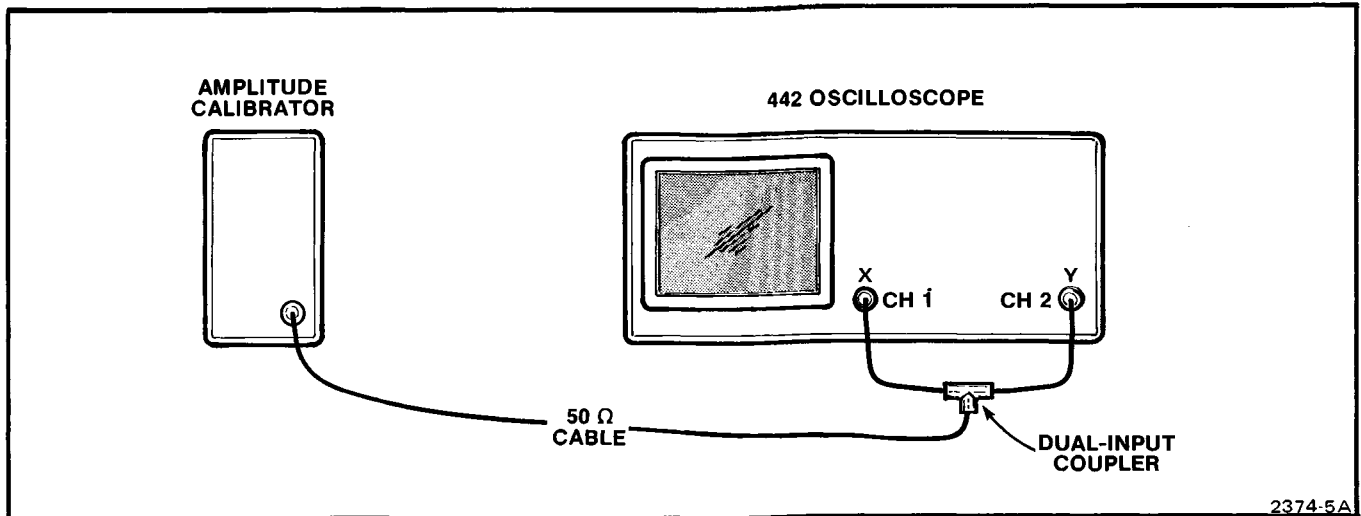

Figure 4-1. Vertical deflection accuracy test setup.
a. Connect the test equipment as shown in Figure 4-1 and apply an unterminated 10 mV, 1 kHz Amplitude Calibrator signal to the CH 1 and CH 2 input connectors. Set the CH 1 AC-GND-DC switch to DC and the CH 2 AC-GND-DC switch to GND. In the remainder of this step, set the CH 1 and CH 2 POSITION control (as appropriate) to center the display within the graticule area.